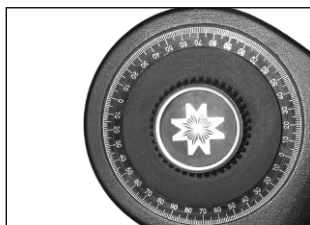

Fig. 17: Altitude lock and setting circle.
**Alternate method:** Level the optical tube: Line up 0° on the Altitude setting circle (**Fig. 17**) with the triangular pointer.
3. Tighten the Altitude lock (**Fig. 17**) to a firm feel only.